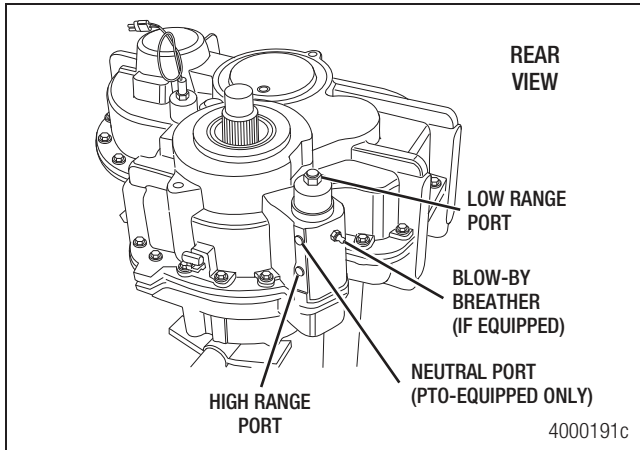

Figure 5.15
- Shift the transfer case into high range using compressed air at the high-range port of the shift cylinder. Figure 5.15.